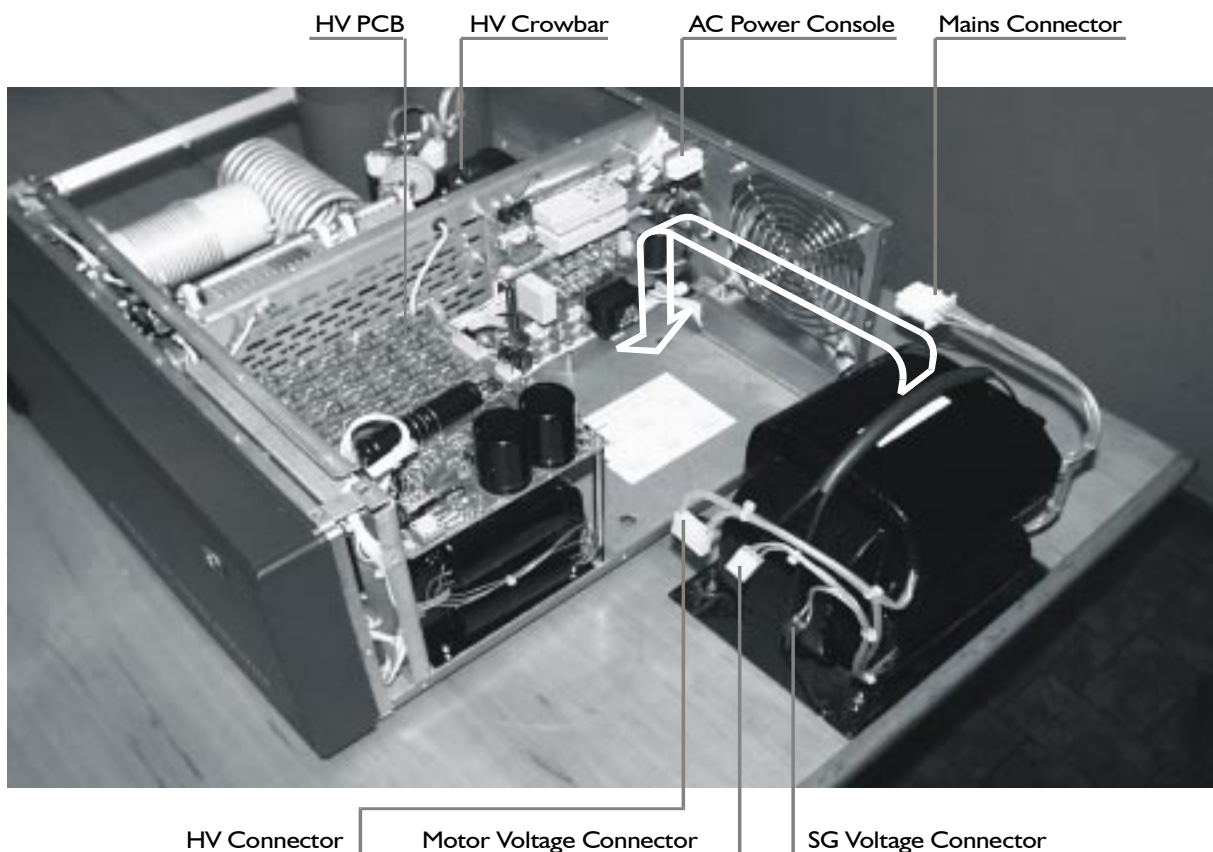

Fig.2-1 Transformer Installation
**Check the HV Crowbar (Fig. 2-1) - it must reliably shorten the HV lead to the chassis when cover is open.**
Orient the amplifier on the table so that the transformer compartment is in front of you (Fig.2-1):
The transformer's Mains Connector plugs into the AC power console (Fig.2-1). The other three connectors (HV, Motors Voltage & SG Voltage) plug into the HIGH VOLTAGE PCB, clearly seen on top.